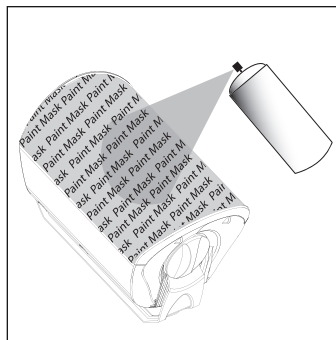

FIGURE 8: After priming, apply thin coats of finish color.
2. Only after the primer is completely dry should you apply the finish color [figure 8].